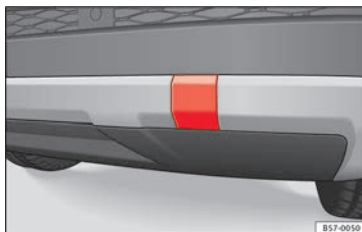

Fig. 98 Rear bumper on right: remove the lid.
The housing of the screw towing eye is on the right side of the rear bumper behind a lid » Fig. 98. Vehicles equipped as standard with a towing bracket **do not** have any housing for the screw towing eye behind the lid. In this case, the tow hitch needs to be extracted
- Press the upper side of the lid » Fig. 98 to unclip it.